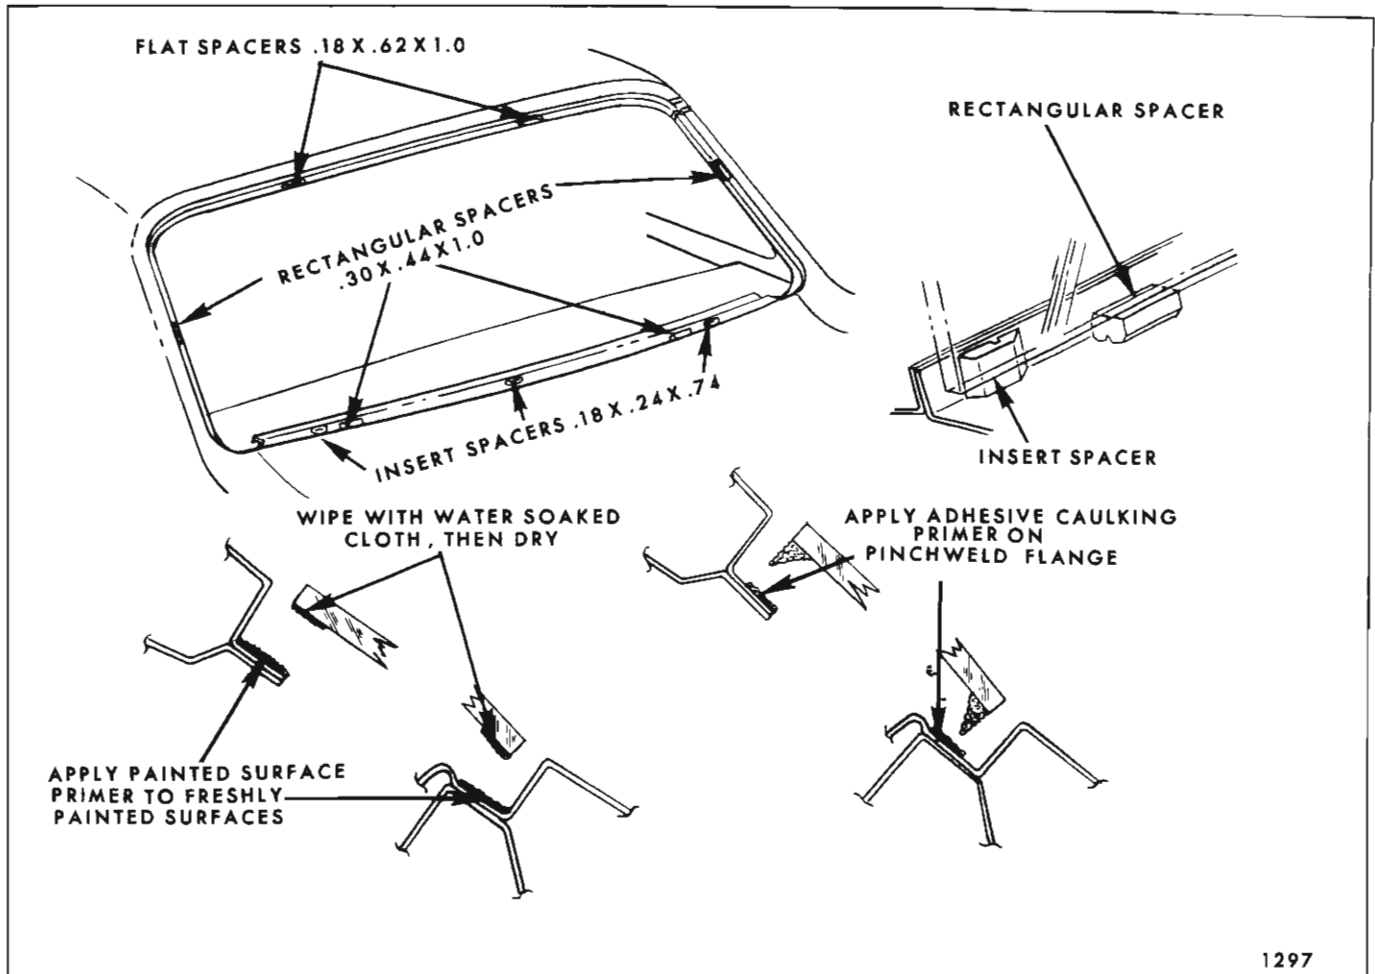

Fig. 1F3—Adhesive Caulked Back Window Spacer Installation
2. On all styles, cement (with black weatherstrip adhesive) two (2) flat spacers (.18 x .62 x 1.0 - Part No. 4421823 or equivalent) to pinchweld flange at top, approximately fifteen inches each side of center line of opening (see Fig. 1F3).